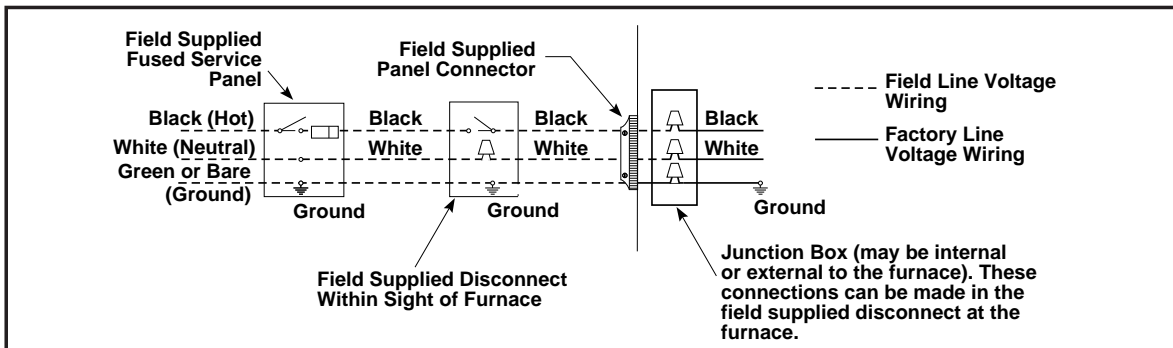

Figure 26. Line Voltage Field Wiring
tral line is connected to the white wire and the incoming "hot" line is connected to the black wire in the furnace junction box. The furnace will not operate unless polarity and ground are properly connected. See Figure 26.
4. The roll-out and vent safety manual reset switches are closed. If necessary, press the red button to reset a switch. See Figure 26 for location. DO NOT install a jumper wire across a switch to defeat its function. If a switch reopens on start-up, DO NOT reset the switch without identifying and correcting the fault condition which caused the switch to trip.